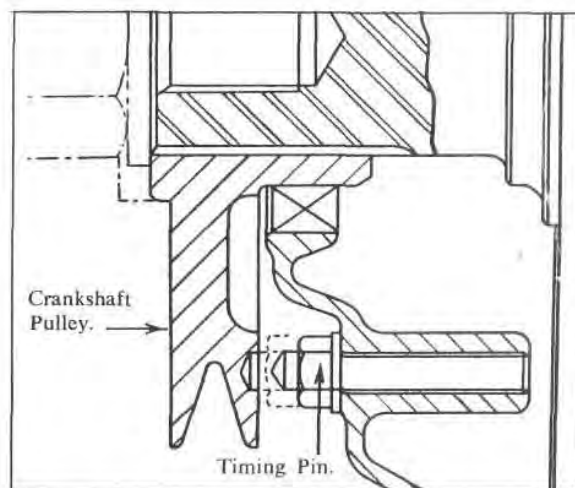

Fig. B47 — Timing Pin Located in Crankshaft Pulley
4. Check that Nos. 1 and 4 pistons are now at T.D.C. by means of the timing pin. Unscrew the pin until it locates in the hole machined in the rear face of the crankshaft pulley as shown in Fig. B47.